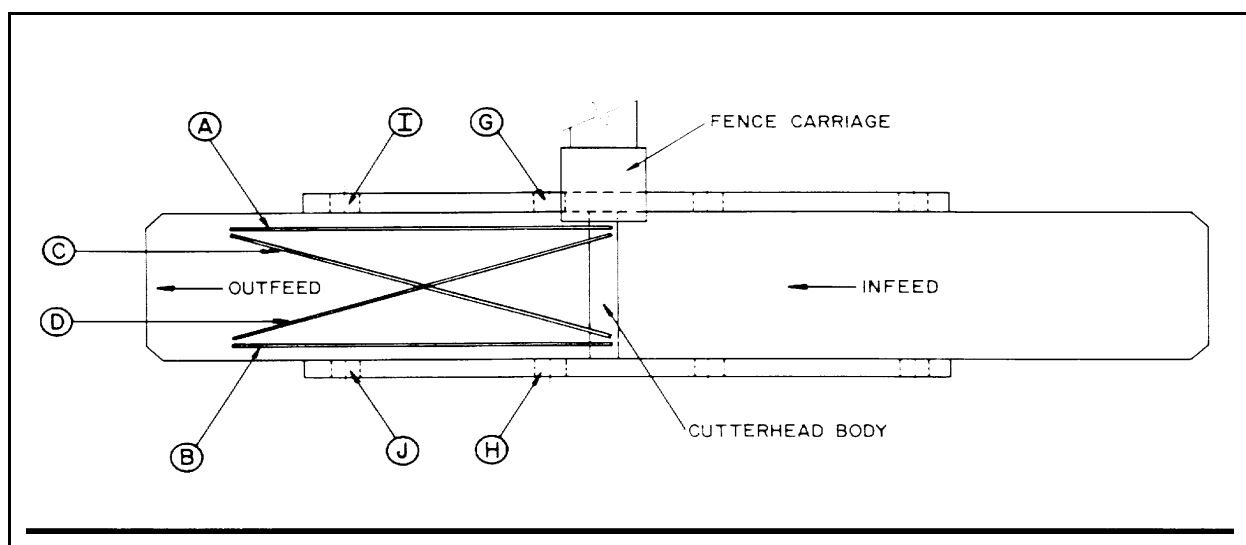

Fig. 5
2. Place the straight edge over the cutterhead body and at the rear of the outfeed table (A, Fig. 5).
4. Place the straight edge over the cutterhead body at the front of the outfeed table (B, Fig. 5). Again, the cutterhead to straight edge gap should be **exactly** .010".
5. If an adjustment is necessary, proceed as follows: Locate the eccentric bushing (H, Fig. 5) and loosen its locking set screw(s) or lock screw. Rotate the bushing clockwise or counter-clockwise to obtain the .010" gap that is required between the straight edge and the cutterhead body. Re-tighten the bushing's set/lock screw.
6. Place the straight edge diagonally over the cutterhead body and outfeed table (C, Fig. 5). The cutterhead body to straight edge gap must measure **exactly** .010". If an adjustment is needed, locate the eccentric bushing (I, Fig. 5) and adjust as in step 5.
7. Place the straight edge diagonally over the cutterhead body and outfeed table (D, Fig. 5). The cutterhead body to straight edge gap must measure **exactly** .010". If an adjustment is needed, locate the eccentric bushing (J, Fig. 5) and adjust as in step 5.